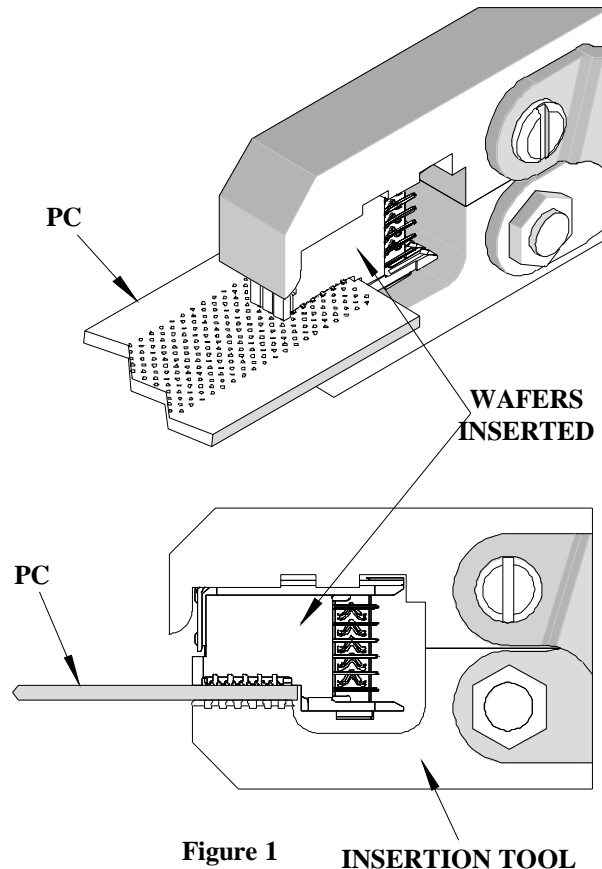

Figure 1 INSERTION TOOL
2. When the wafers are in position, place the 62202-1060-insertion tool over the wafers to be inserted. It is important to hold the tool so that it is parallel to the wafers in the header and not interfering with the features of the wafers. If the loaded wafer pins protrude below the board, the lower jaw of the insertion tool has clearance holes to clear for them. Be careful not to damage the pins when locating the tool. See Figure 1.